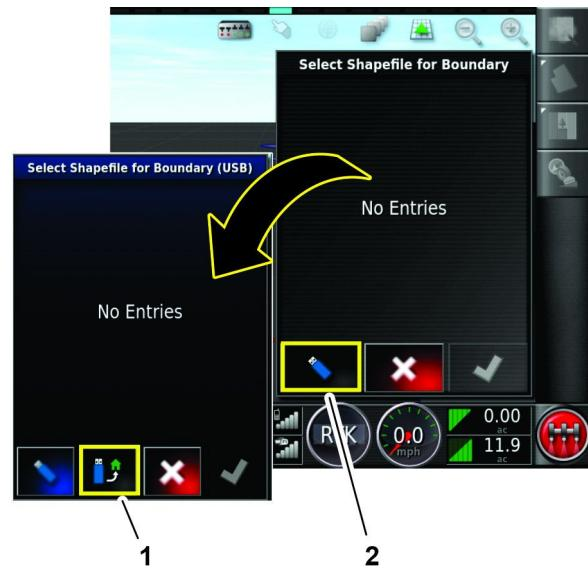

Figure 74
5. In the select shapefile for boundary dialog box, press the SWITCH TO USB DRIVE icon (Figure 74).
6. In the select shapefile for boundary (USB) dialog box, press the IMPORT FROM USB DRIVE icon (Figure 74).